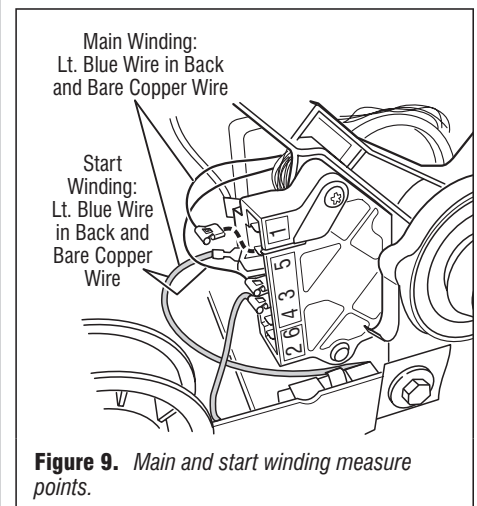

Figure 9. Main and start winding measure points.
- Remove the bare copper wire terminal from pin 5 of black drive motor switch. See figure 9.
- Using figure 9, check for the resistance values of the motor's Main and Start winding coils as shown in the following table.